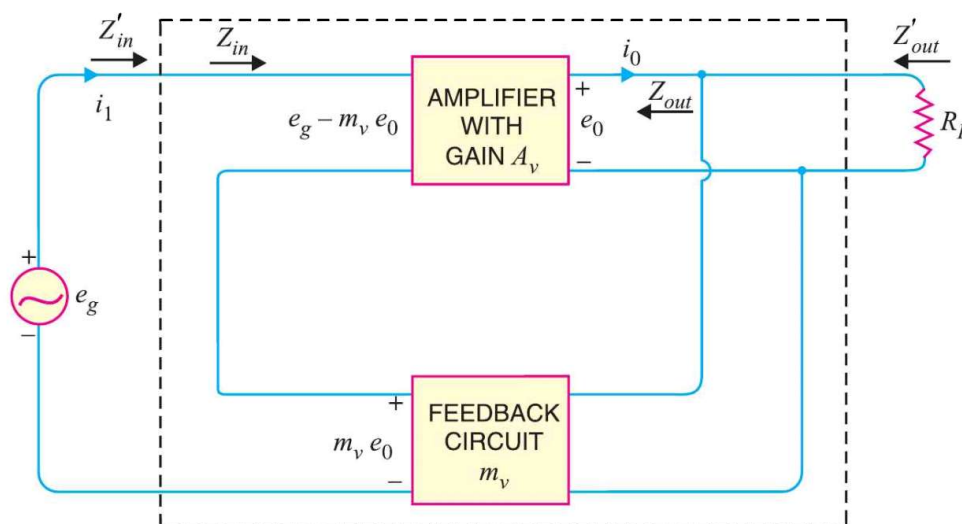

Fig. 13.6
**(a) Input impedance.** The increase in input impedance with negative voltage feedback can be explained by referring to Fig. 13.6. Suppose the input impedance of the amplifier is  $Z_{in}$  without feedback and  $Z'_{in}$  with negative feedback. Let us further assume that input current is  $i_1$ .
Referring to Fig. 13.6, we have,